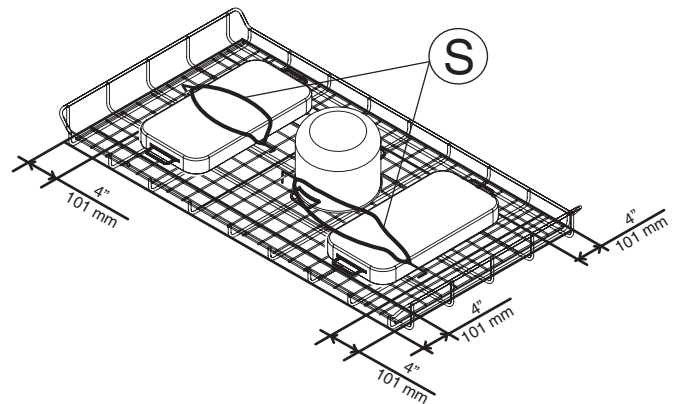
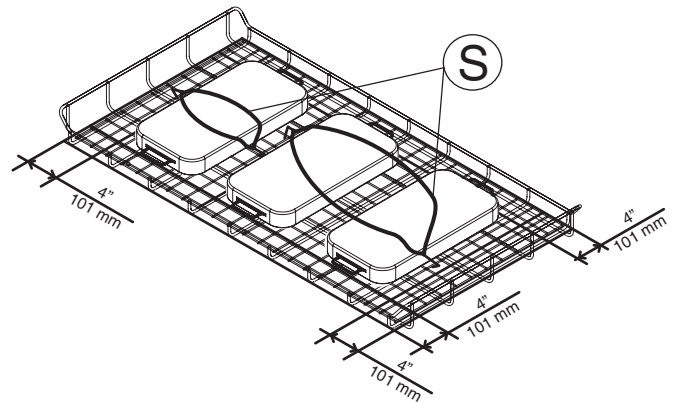

Figure 13
Figure 14
- Insert the dirty pots and pans upside down on the basket (Figure 13/ Figure 14).
- Tie pots and pans with supplied rubber bands "S" as showed in Figure 13/ Figure 14.
CAUTION: Do not stack pots and pans one on top of another as water must have free access to all sides of every pot or pan. Leave a minimum gap of 4" / 101 mm between pans and the edge of the rack (Figure 13/ Figure 14).